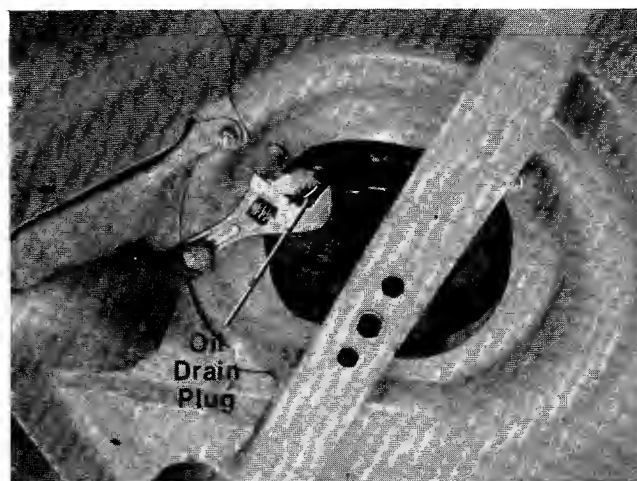

FIGURE 22.
**CHANGE OIL** after first 5 hours of operation. Thereafter change every 25 hours. Change oil while engine is warm. Oil may be drained thru drain on bottom of engine. To drain completely, always place engine level when draining thru the bottom. Oil capacity 1-1/4 pints. See figure 22.